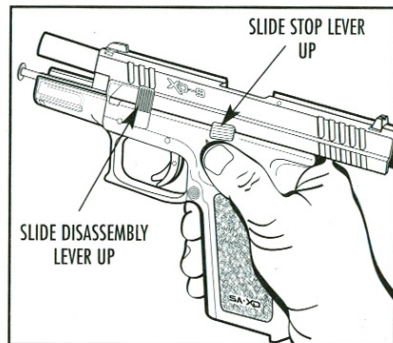

Figure 22
4. Rotate the slide disassembly lever clockwise to a vertical 12 o'clock position. (Figure 22.)